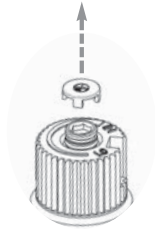

Fig.1
- 16) Remove the black protection cap by hand from the hi-low knob (Fig.1).